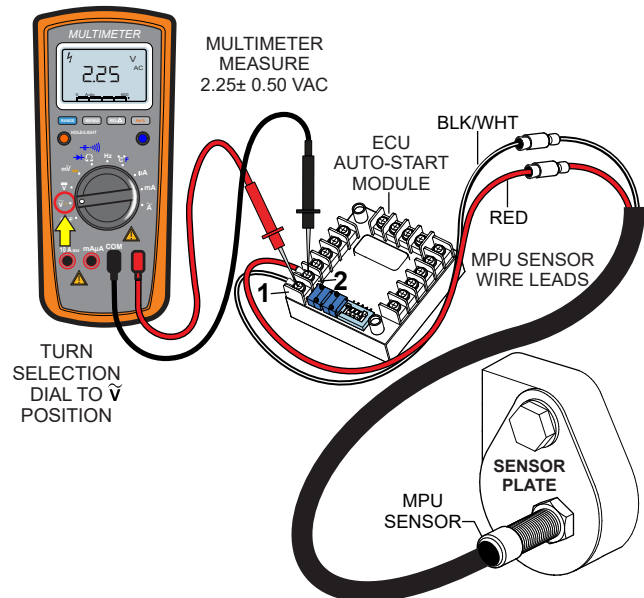

Figure 75. MPU Voltage Test
1. With the multimeter test leads still placed across pins 1 and 2 on the ECU **auto-start module**, set the multimeter selection dial to the **AC Volts** position (Figure 75).